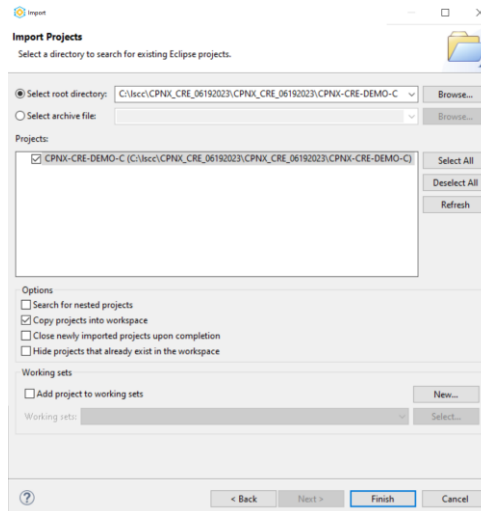

Figure 4.7. Importing a Lattice Propel Project
4. In **Import Projects** page, choose **Select Root Directory**, click **Browse** and select the folder **C:\Iscc\CPNX_CRE_DEMO\CPNX-CRE-DEMO-C**. as shown in Figure 4.7.